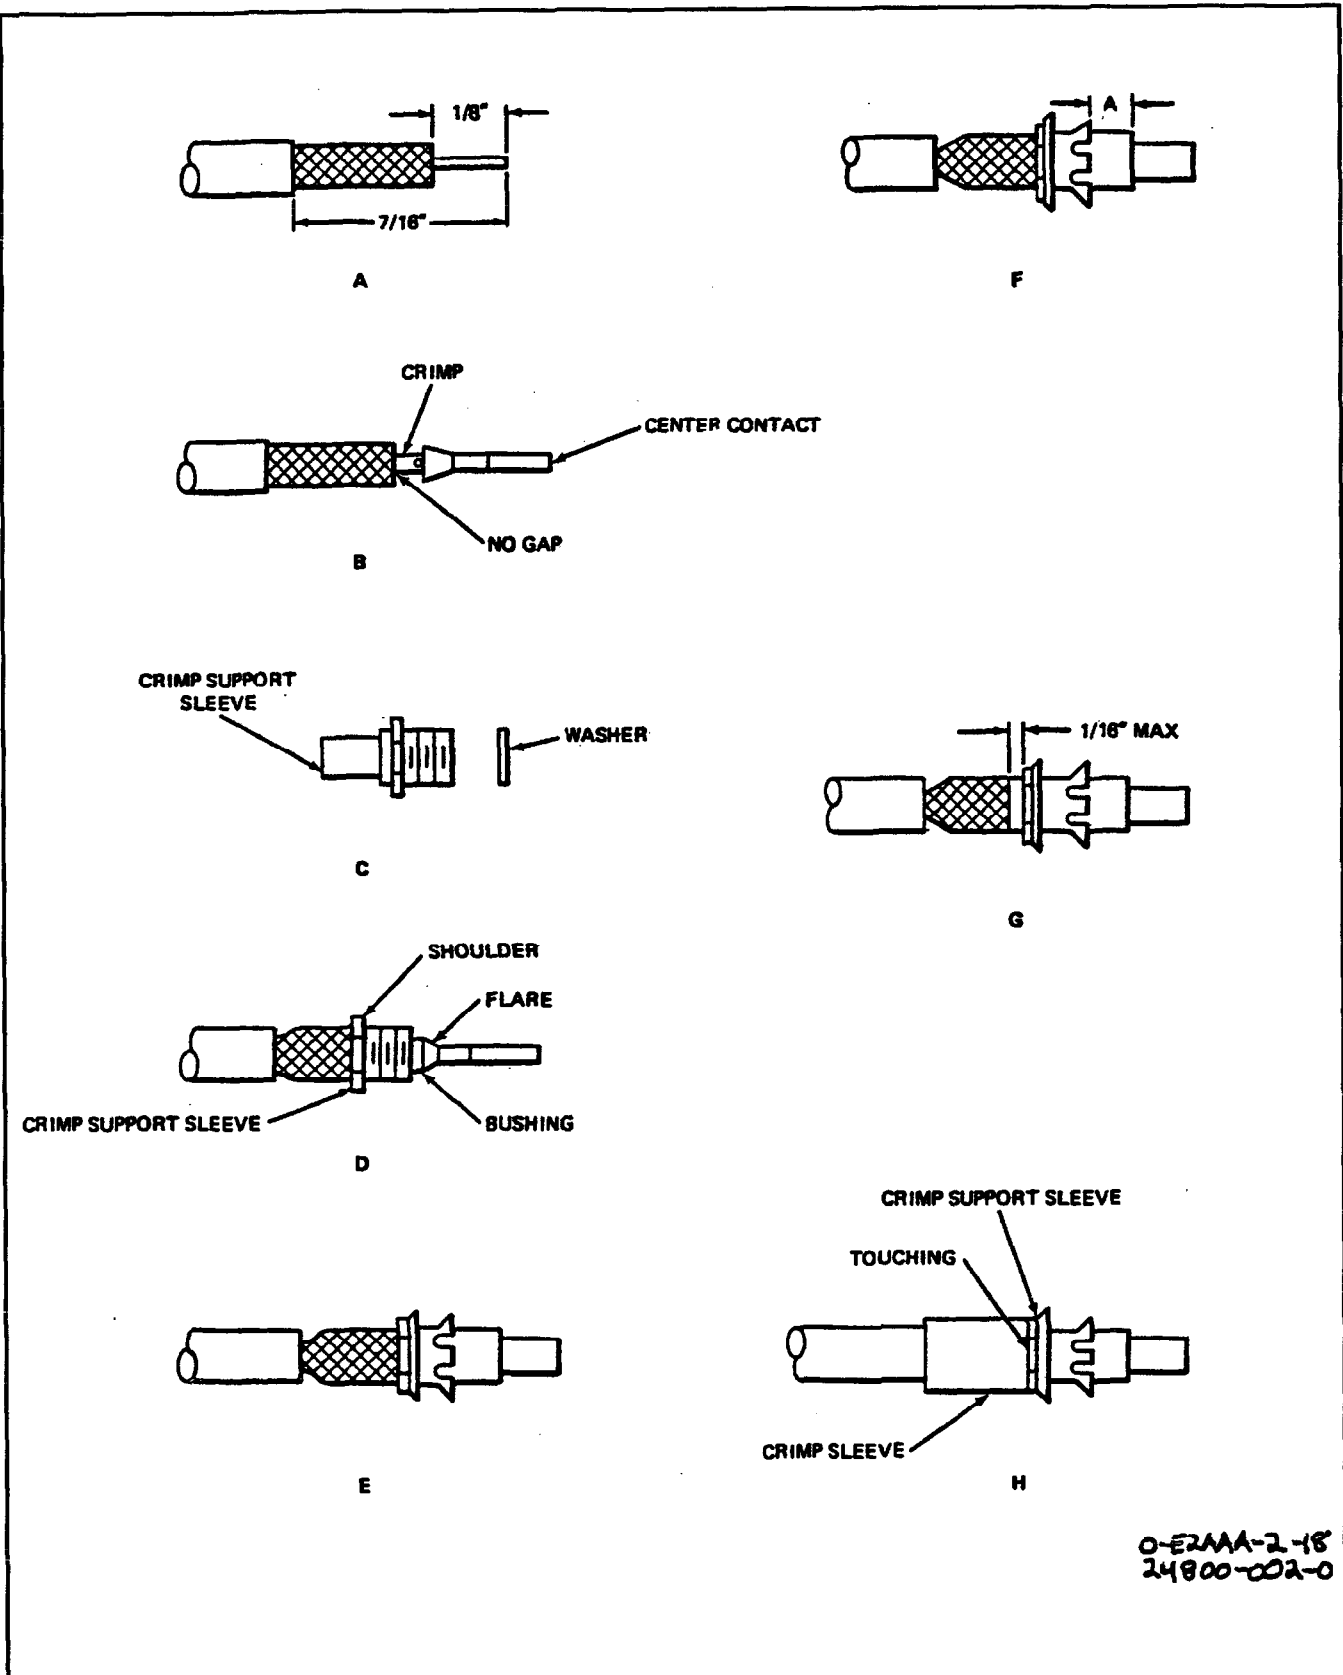

Figure 2. Coaxial Contact Repair of Connectors P8, P9, and P11
8. REPAIR OF COAXIAL CONTACTS OF CONNECTORS P8, P9 AND P11. (See figure 2.)